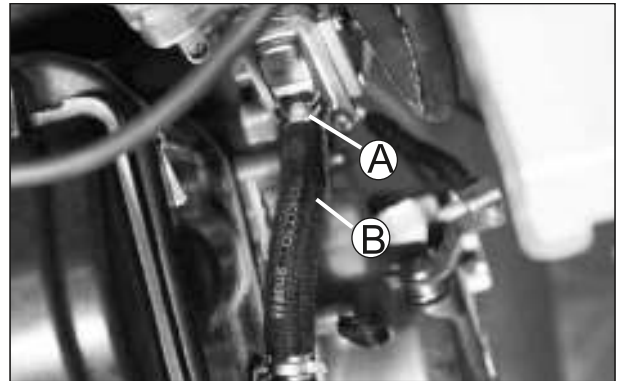

Fig. 4.37
- Dislocate the clip hose air outlet (A) from hose air outlet (B) and pull out the hose air outlet from secondary air injection valve.(Fig. 4.37)